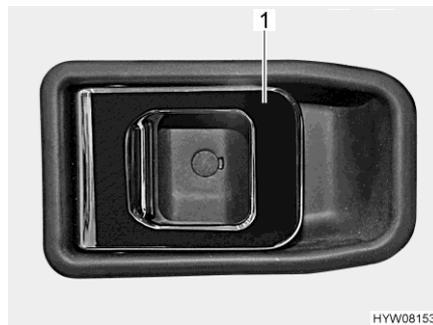

Fig. 39 Door lock (driver's door / living area door, inside)
- Pull on the handle (Fig. 39,1). The door lock is unlatched or opened.
- Push the handle (Fig. 39,1). The door lock is locked.